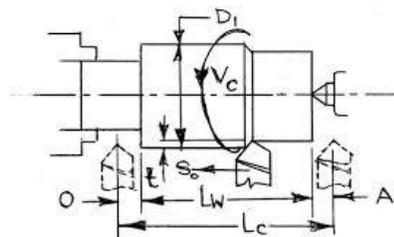

Figure Turn-7: feed the raw material with a suitable length
4. As in figure Turn-7, feed the raw material, and adjust an appropriate machining length with an additional length to prevent a collision between cutter and chuck.